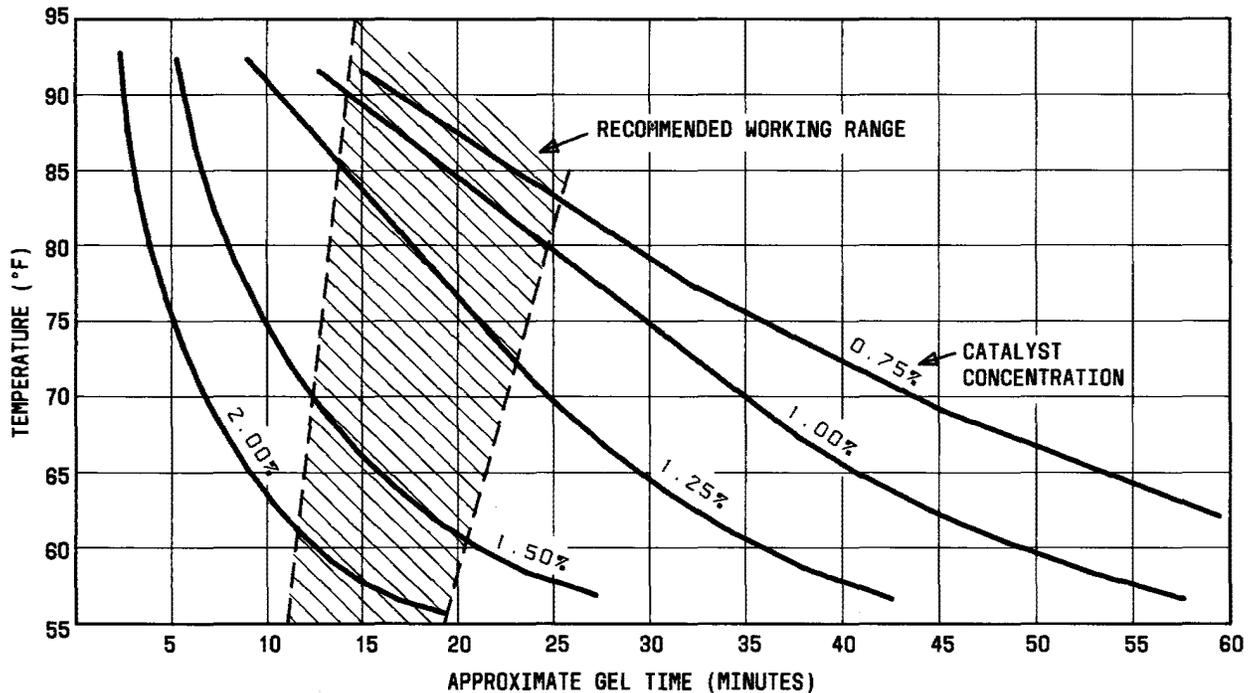

Fig. 7—Gel Time vs Temperature for Various Catalyst Concentrations
28	Place a golf-ball size amount (about 1 liquid ounce) of polyester putty onto the Formica-backed mixing board. Add MEK peroxide as a catalyst using the calibrated eyedropper to dispense the amount required. (See Fig. 7 and Table A.) Thoroughly mix the catalyst and putty. Using the stir stick, apply this mixture and work it into the cavity under the retainer and around the keeper nut and protruding screw shank. Completely cover the screw and retainer, and use the plastic squeegee to make a smooth finish. If this repair will be covered with fiberglass, shrink the filler by applying artificial heat and then scuff-sand the filler to provide a good bonding surface for the next operation. If not, return to Step 8.
30	Pour about 4 ounces of polyester resin into an unwaxed paper cup. Catalyze the resin by adding a small amount of MEK peroxide, using the calibrated eyedropper. The amount of catalyst required will be influenced by the ambient temperature. (See the graph in Fig. 7 and Table A.) Use a stir stick to thoroughly mix this solution.
- 32 The amount of time required for the resin to harden enough for repressurization of the antenna depends on the ambient temperature. The graph given in Fig. 7 relates resin gel time to ambient temperature for various catalyst concentrations. If the temperature is below 60°F, apply artificial heat to the repair to accelerate gelation of the resin.